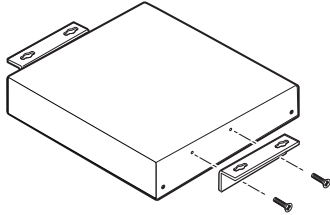

Figure 2-6 — Attaching the under desk brackets
1. Attach the mounting brackets to the interface using four machine screws supplied with the mounting kit (figure 2-6).